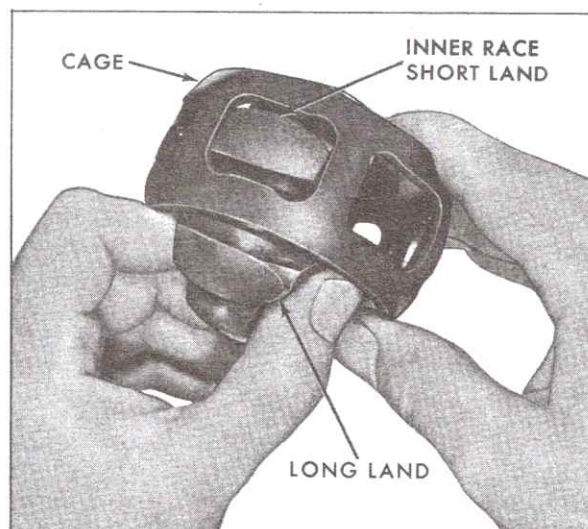

Fig. 3-54 Removing Inner Race from Cage
9. Turn short land of inner race 90° in line with hole in cage. Lift land on inner race up through hole in cage, then turn up and out to separate parts as shown in Fig. 3-54.
1. Insert short land of inner race into slot in cage and pivot to install in cage as shown in Fig. 3-54.